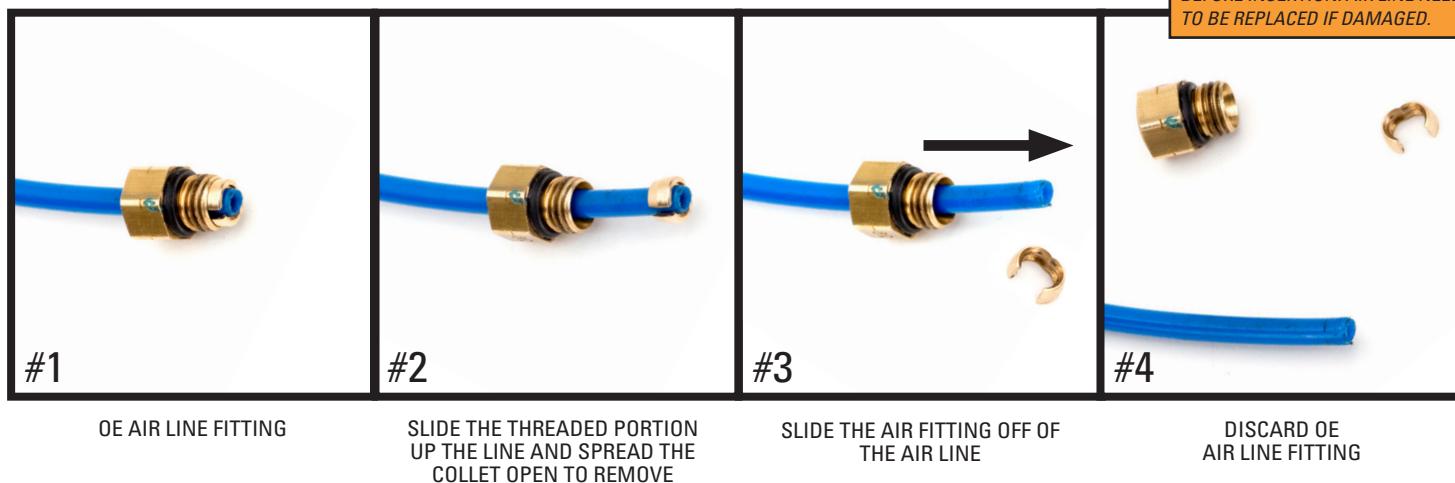

FIGURE 18
7. REMOVE OE AIR LINE FITTING FROM THE AIR LINE AND DISCARD. (FIGURE 18)